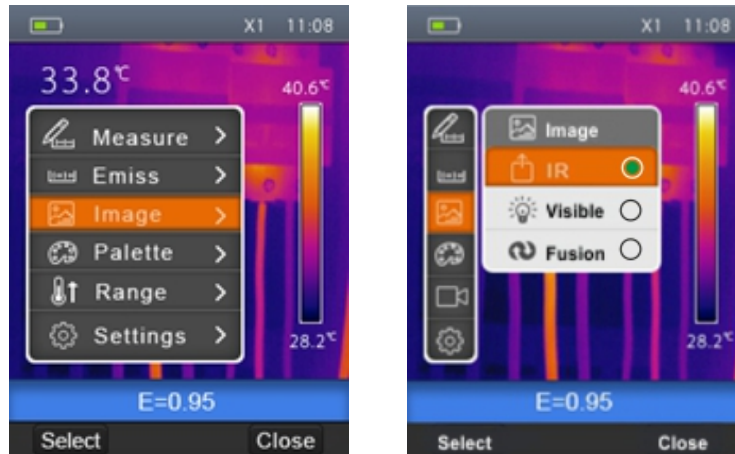

Fig. 19: Selecting the image display mode
1. Select the item "Image" using the keys or and press the key . The screen Fig. 19 – Right side is shown on the display